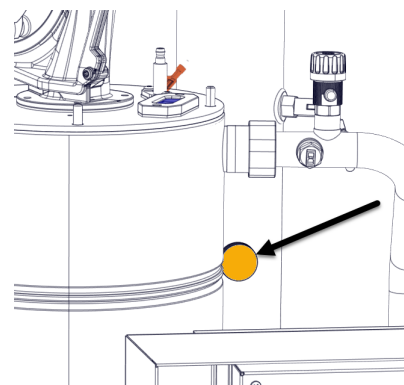

Figure 2 Flue gas test port
4. When the boiler reaches high fire, insert the combustion analyzer test probe into the flue gas test port *Figure 2*.